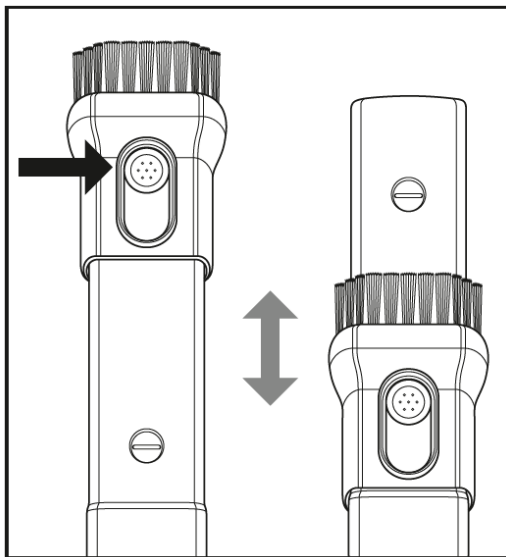

Fig. 3
- To adjust the 2-in-1 nozzle «12», hold down the button on the brush nozzle. Slide the brush nozzle forward if you want to use nozzle for upholstered furniture. Slide the brush nozzle backward if you want to use the crevice nozzle (see Fig. 3).